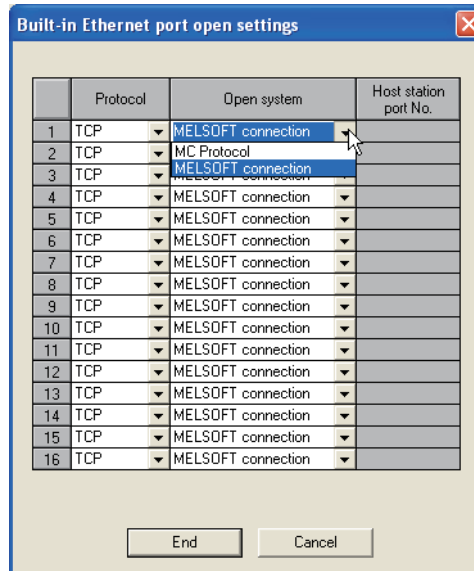

Figure 7.4 Built-in Ethernet port open settings screen
- 2) Set the connection for GX Developer (MELSOFT connection). (Refer to Figure 7.4.)